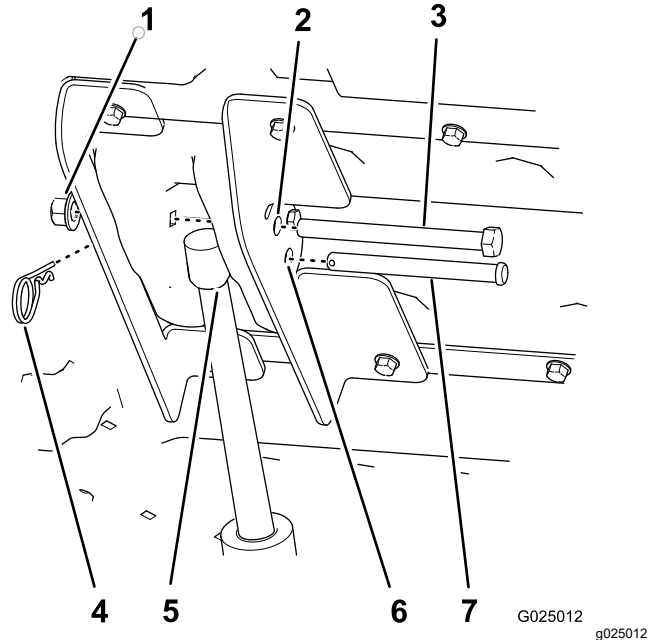

Figure 12
6. Press the up paddle on the bed-lift switch to extend the lift-actuator rod until the hole in the rod is aligned with the holes in the inboard and outboard-lift brackets (Figure 12).
7. Secure the lift-actuator rod to the lift brackets with the clevis pin (3-1/2 inches) and hairpin (Figure 12).
9. Align the hex-head bolt (1/2 x 5-1/2 inches) through the remaining 12.7 mm (1/2 inch) holes in the inboard and outboard-lift brackets (Figure 12) and secure it with a locknut (1/2 inch) until the nut is snug.